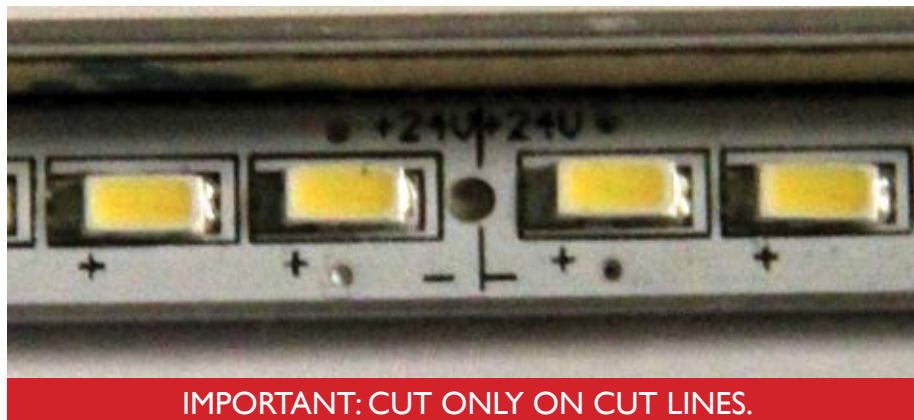

Figure 7
3. Cut and assemble the light bars to proper size (**Only cut on the cut marks. See figure 7**). Make sure the electrical plug-end is at the extreme left or right as ordered so that the plug-end can reach an electrical connection. (**NOTE:** An electrician may be required).